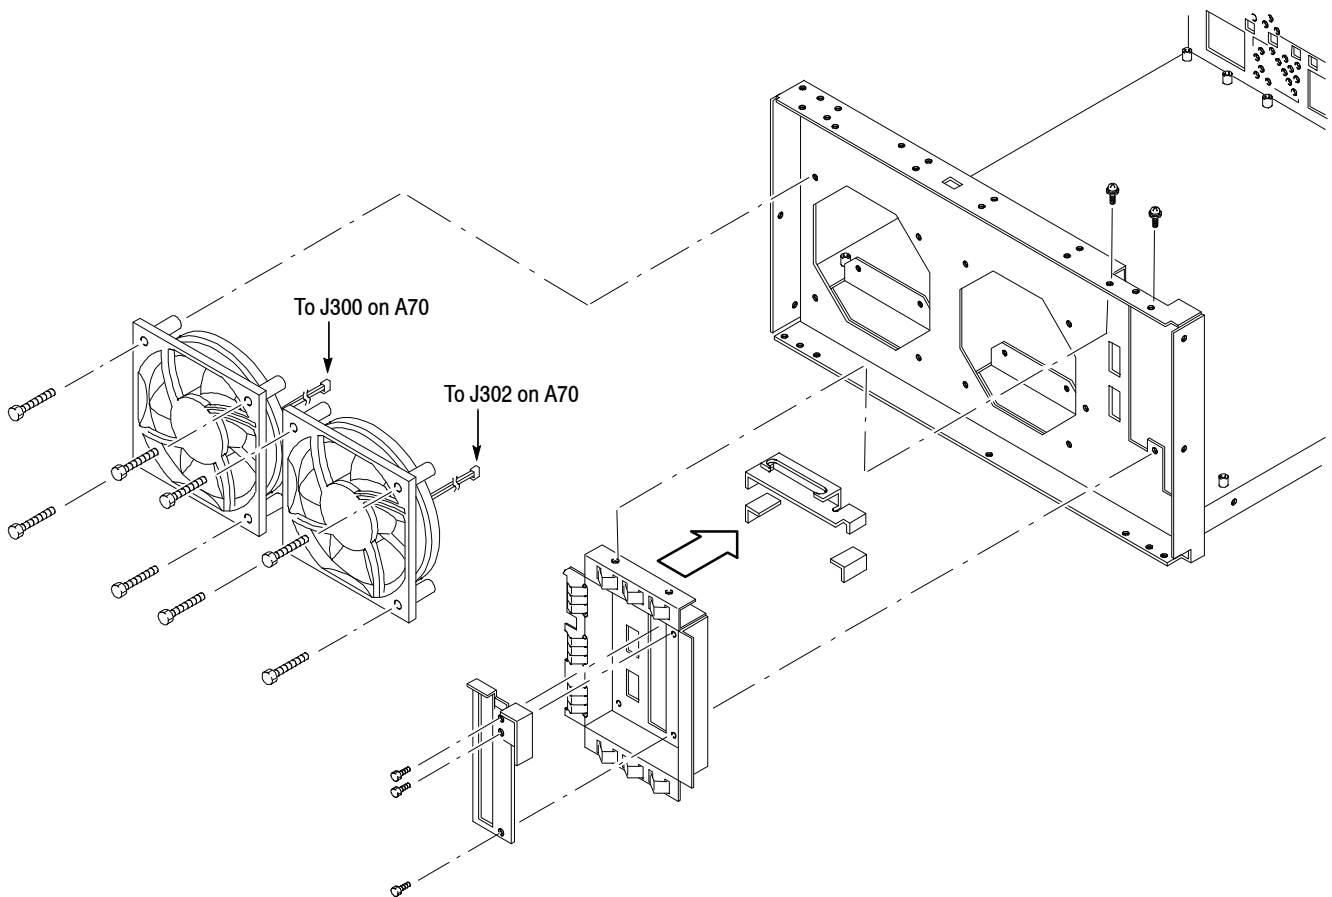

Figure 5-29: Fan and side panel removal
3. *Remove the fan:* See Figure 5-29.
4. *Remove the side panel assembly:* See Figure 5-29.